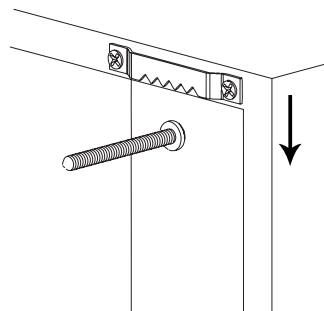

Figure 3
**STEP 3:** Attach each ledge by placing the keyholes over the screws and applying a light downward force, as shown in **Figure 3**.